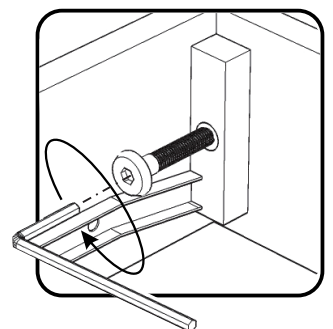

Figure 3
Attach Back Panel (F) to unit with Head Cap Bolt. (See Figure 3)